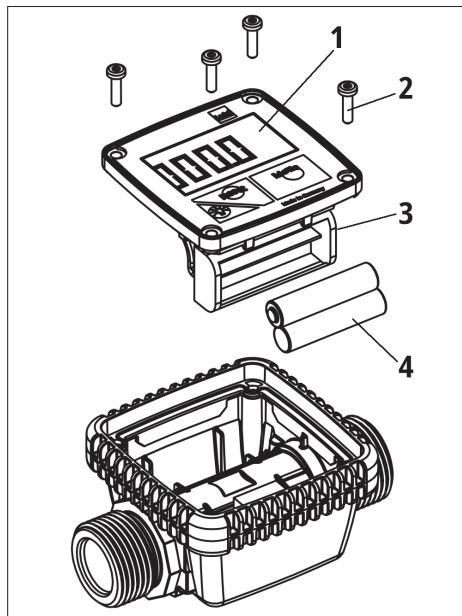

Fig. 5
To insert the battery, loosen the front cover (1) by unscrewing the four screws (2) on the top and then pull it off upwards (→ Fig. 5). Remove the battery holder (3) from the housing and insert the supplied batteries (4) (1.5V type AAA). The device is then closed back up in reverse order. When doing so, ensure that the rubber shock protector is in the correct orientation. The battery cable needs to be laid such that it is not pinched between the reed switch and the housing.